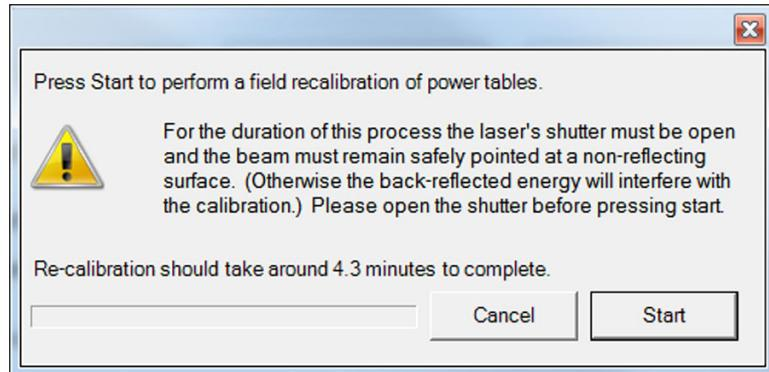

Figure 4-30. Field Calibration—Start Button
3. Click the **Start** button shown in Figure 4-30 to start recalibration.